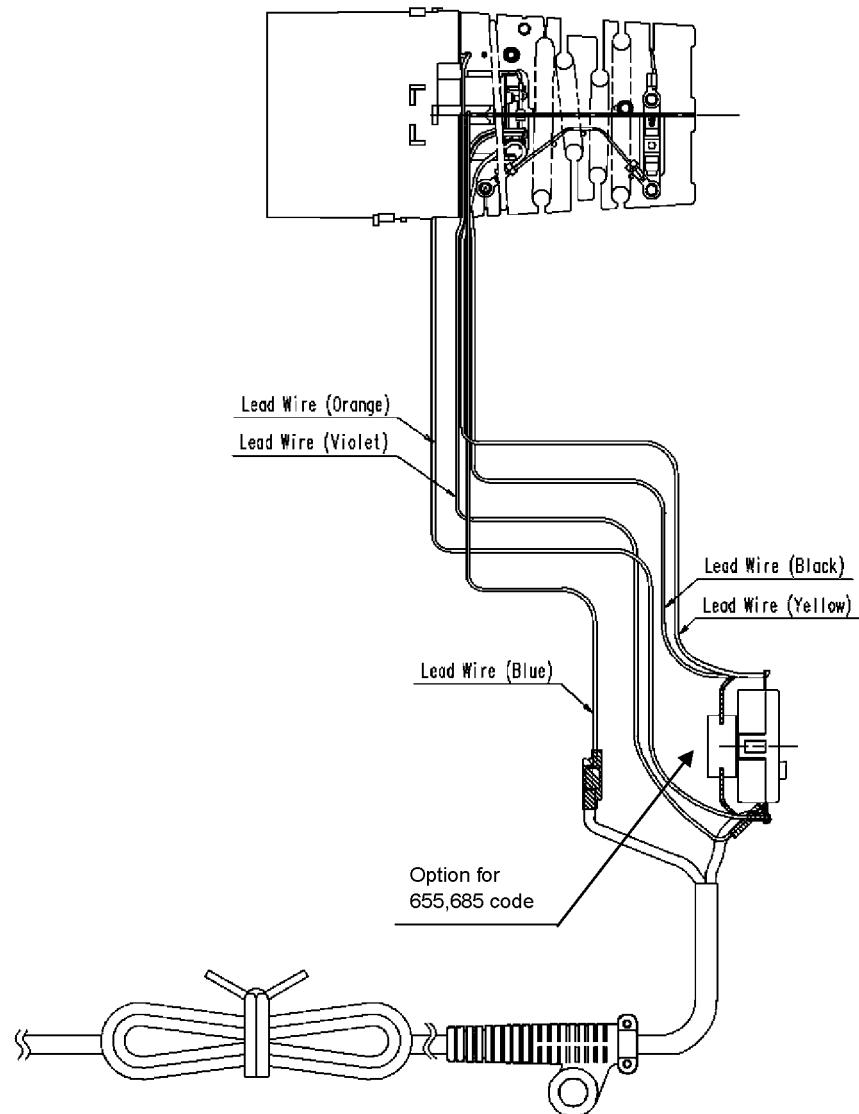

Figure 11
2. Connecting and soldering a motor heater block with a main switch as figure 11.